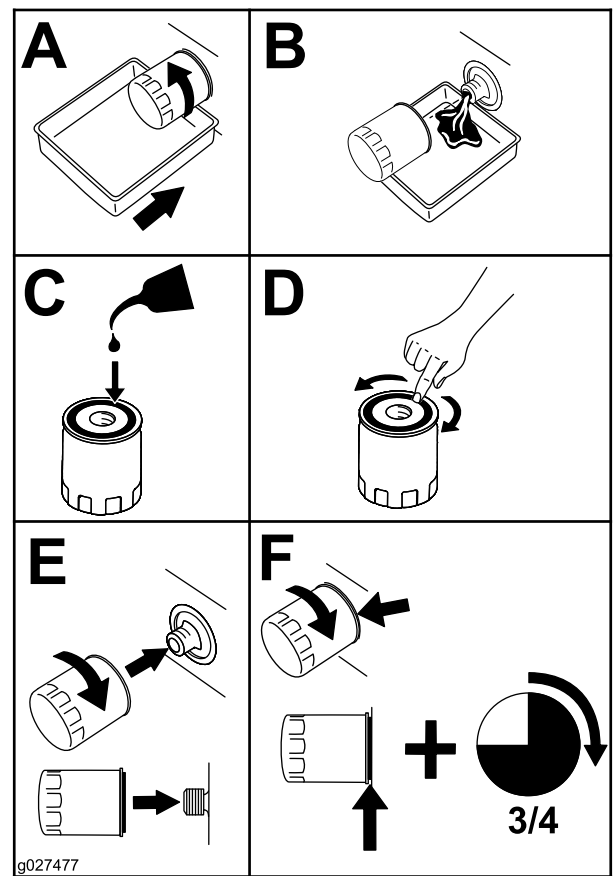

Figure 44
6. Replace the engine-oil filter as shown in Figure 44.